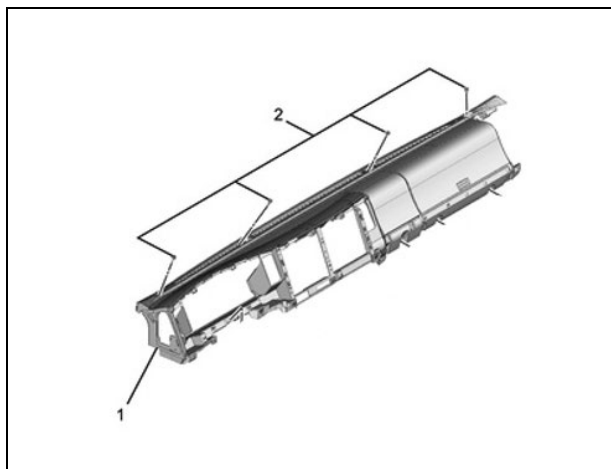

Figure 89
95. Install and torque the four (4) IP mounting bolts removed in Step 52. (See Figure 89.)